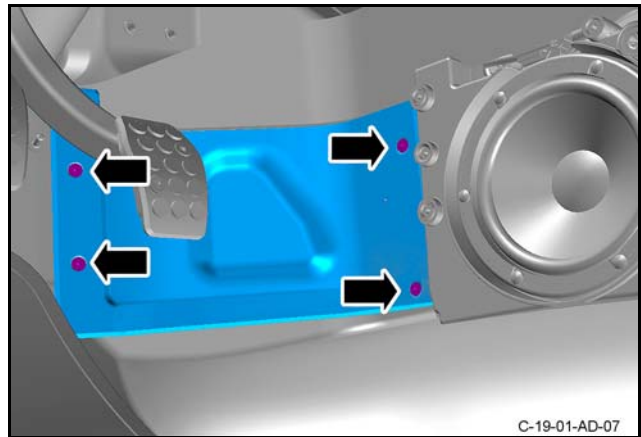

Figure 6
- 20. On all vehicles, remove the four screws that attach the accelerator scuff-plate (scuff-plate) to the body and remove the scuff-plate (Figure 6).